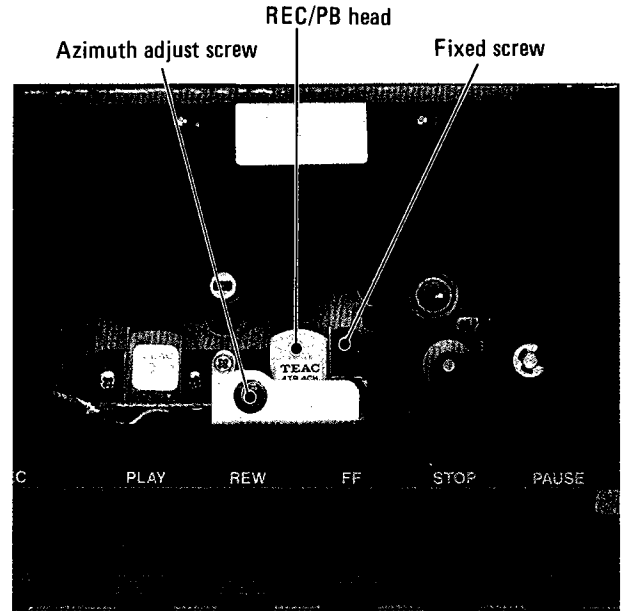

Fig. 8-4 Head azimuth alignment
1. When remounting the REC/PLAY head, be sure not to tighten the head fixed screw (Fig. 8-4) too hard. Turn the screw by approx.  $45^\circ$  (with tightening torque of 2 kg-cm after the screw has started to work).
Fine adjustment of the record/playback head should be made after the tape travel check has been completed. Before proceeding the adjustment, remove the head cover mounted on the Top cover (F). (Fig. 8-4)